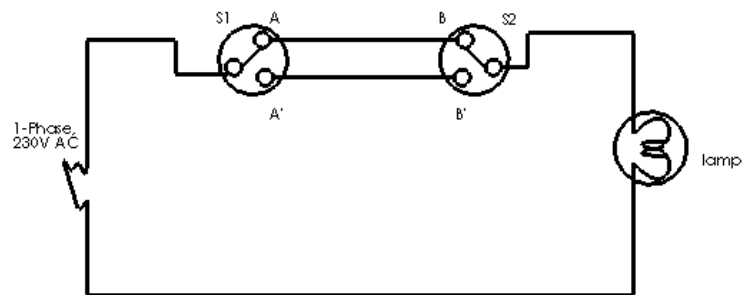

Figure 12.1: Circuit diagram of Two way control of lamp
12.1 Draw the electrical circuit diagram of a two-way control of lamp as shown in Figure 12.1